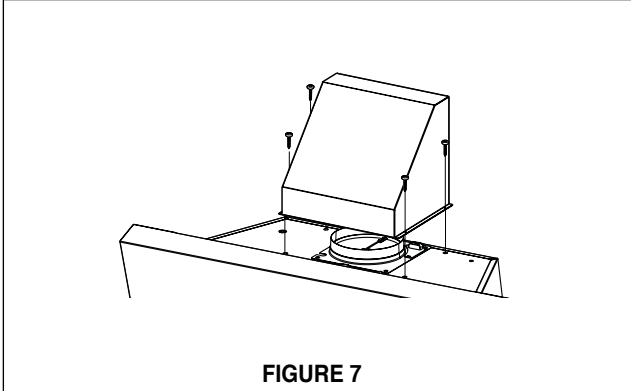

FIGURE 7
1. For rear ducted installations, attach the rear chimney transition to the top of the rangehood (**FIGURE 7**) with the 4 screws provided.